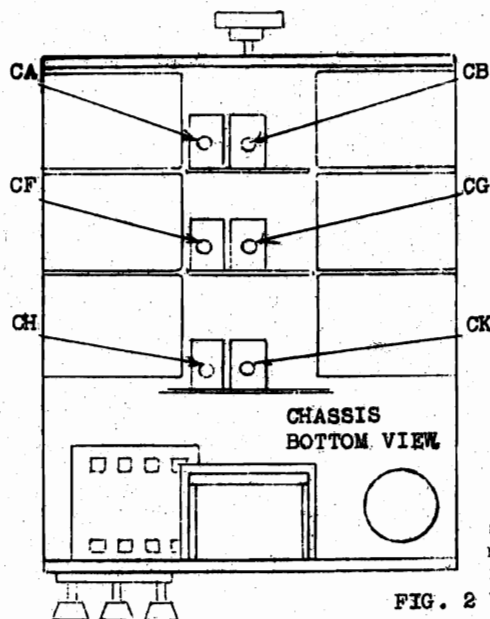

FIG. 2
- Band 1 .2 megacycles, Band 1 Oscillator Series Padder (See Figure 2)
- Band 1 .4 megacycles, Band 1 Oscillator Parallel Padder (See Figure 2)
- Band 2 700 kilocycles, use Band 2 Oscillator Series Padder (See Fig. 2)
- Band 2 1200 kilocycles, use Band 2 Oscillator Parallel Padder (See Fig. 2)
- Band 3 4 megacycles, use Band 3 Oscillator Parallel Padder (See Fig. 2)
After the calibration has been established by means of these adjustments, the respective bands are lined up, insofar as their radio frequency circuits are concerned, by adjustment of the respective Band padders for the radio frequency grid and the detector grid. Figure 2 shows the detector and r.f. padder for each band. Adjustments are to be made on a given modulated signal with an output meter across the headphones and adjustments left at the position giving maximum output meter reading.
Next turn the switch to position four and feed a signal of 7 Mc. into the receiver and adjust the tuning control of the DB-20 so that it sets on 7 Mc. Under these conditions check the setting of C_g for peak output. (Fig. 2).